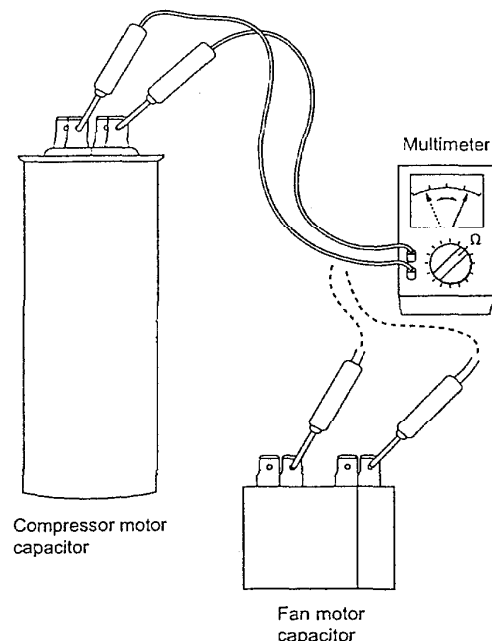

Fig. 18
- Refer to "1-3-(B) Other component specifications".
- ③ **Indoor fan motor (FMI) Indoor unit** *Measure the coil resistance.
- Refer to "1-2-(A) Major component specifications".
- ④ **Outdoor fan motor (FMO) Outdoor unit** *Measure the coil resistance.
- Measure the resistance in the same manner as explained above ③.
- Refer to "1-2-(B) Major component specifications".
- ⑤ **Motor capacitor Both in indoor and outdoor unit**
- Remove the lead wires from the capacitor terminals, and then place a probe on the capacitor terminals as shown in **Fig. 18**. Observe the deflection of the pointer, setting the resistance measuring range of the multimeter to the maximum value.